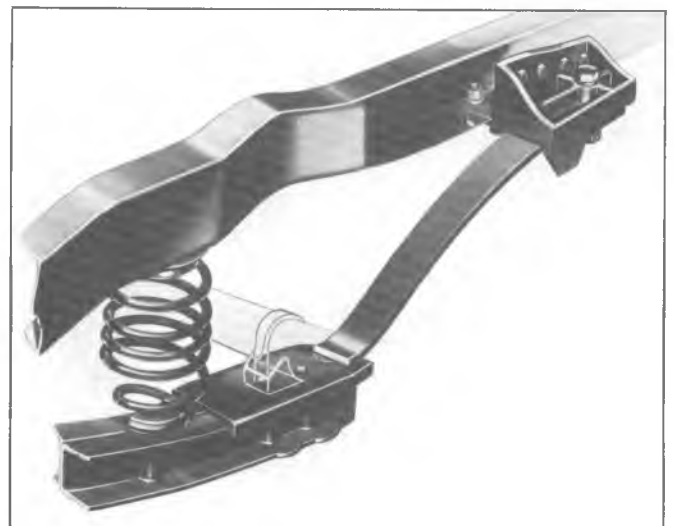

Fig. 11—Auxiliary Rear Spring (Series C10-20)
1. The auxiliary spring is secured to the frame mounted retaining bracket by one retaining bolt. Before attempting to remove spring, make sure there is no load on spring and that spring leaf does not contact the control arm mounted bumper (fig. 11).